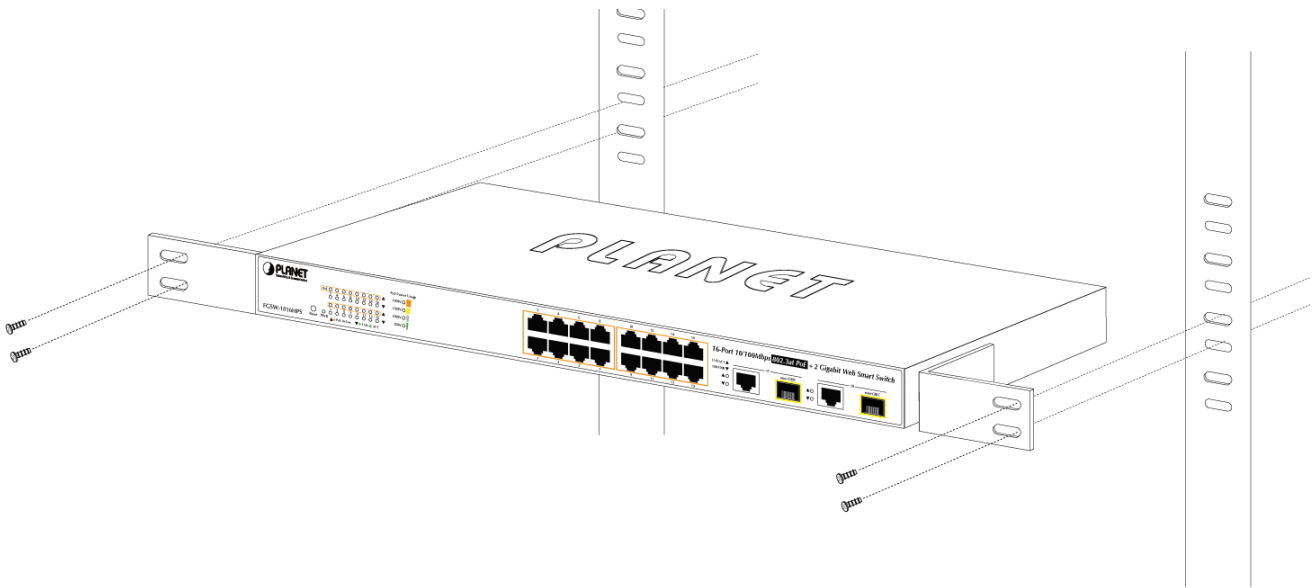

Figure 2-6 Mounting PoE Web Smart Switch in a Rack
Step 5: After the brackets are attached to the PoE Web Smart Switch, use suitable screws to securely attach the brackets to the rack, as shown in Figure 2-6.